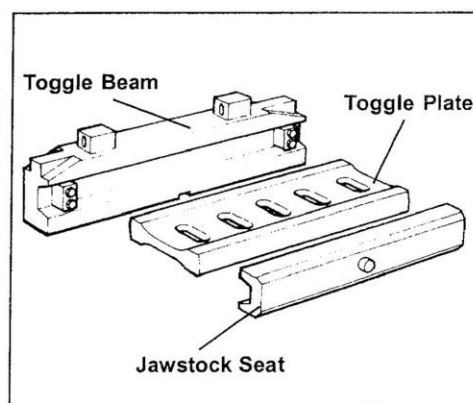

Figure 9f Toggle Plate Assembly
3. Attach suitable support cables to the toggle plate (Figure 9f).
(Figure 9f & 9g)